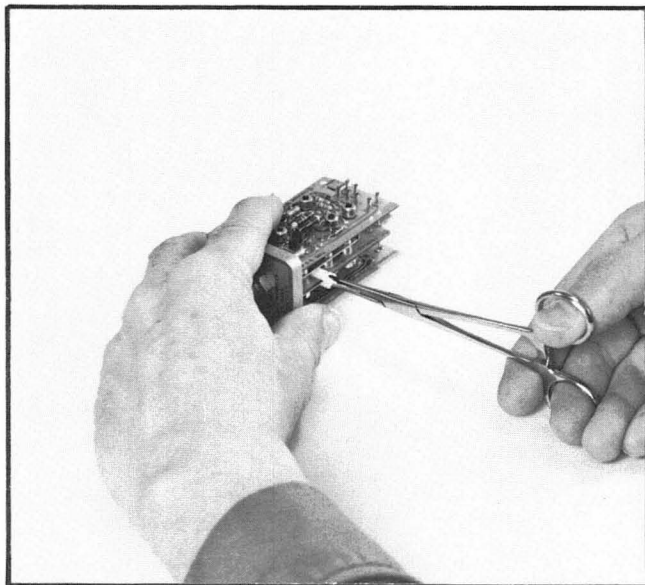

Fig. 4-2. Removal or replacement of sampling bridge diodes.
**Replacement of Sampling Bridge Diodes.** The Sampling Bridge diodes may be removed or replaced on the Sampler Board through the top of the unit. Fig. 4-2 shows a method for the removal or replacement of the white plastic holder in which the diodes are mounted. In some instruments the diodes are soldered in and may require a modified method to replace.